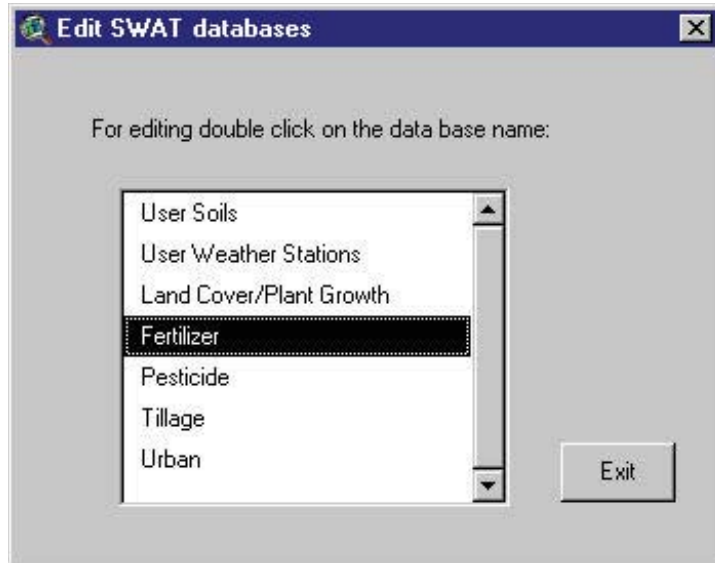

Figure 14.42
1. Double-click **Fertilizer** on the list of databases (Figure 14.42).